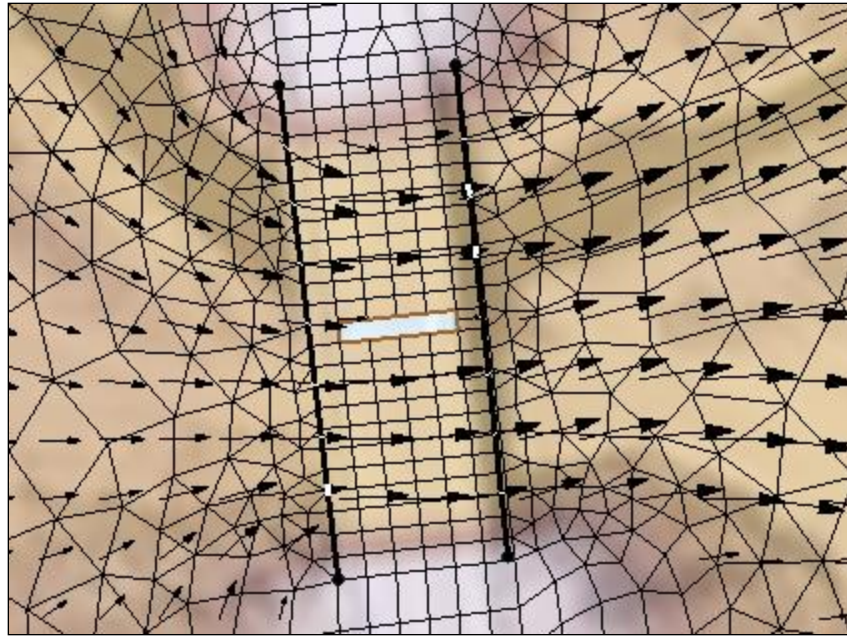

Figure 3 Pressure flow arc locations
8. Use the **Create Feature Arc**  tool to create one arc on each side of the bridge to define the upstream and downstream faces of the bridge deck. The arcs should be created from right to left or bottom to top. The arcs should look similar to Figure 3.